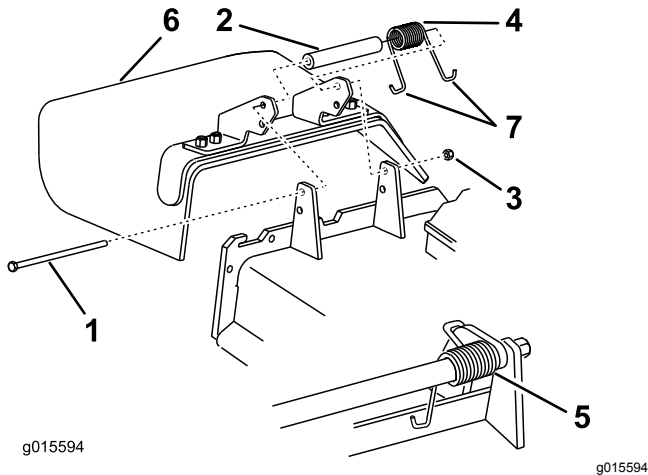

Figure 103
1. Remove the locknut, bolt, spring, and spacer holding the deflector to the pivot brackets (Figure 103).
2. Remove the damaged or worn grass deflector (Figure 103).
Note: Make sure that 1 J-hook end of the spring is installed behind the deck edge before installing the bolt as shown in Figure 103.
6. Place 1 J-hook end of the spring around the grass deflector (Figure 103).